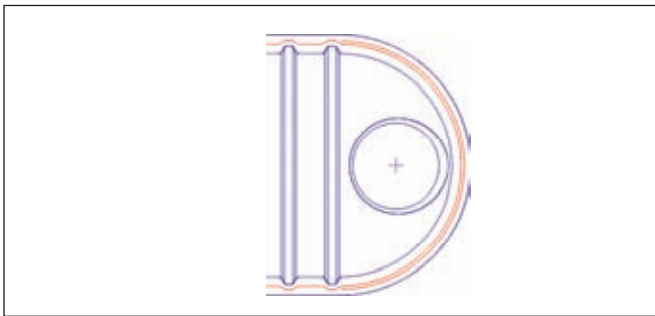

FIGURE 7-4
7.2.9. When the entire flange has been beaded but not all of the adhesive allotted for the tank has been used, continue applying adhesive by adding additional beads in the dome area. (See FIGURE 7-4.)